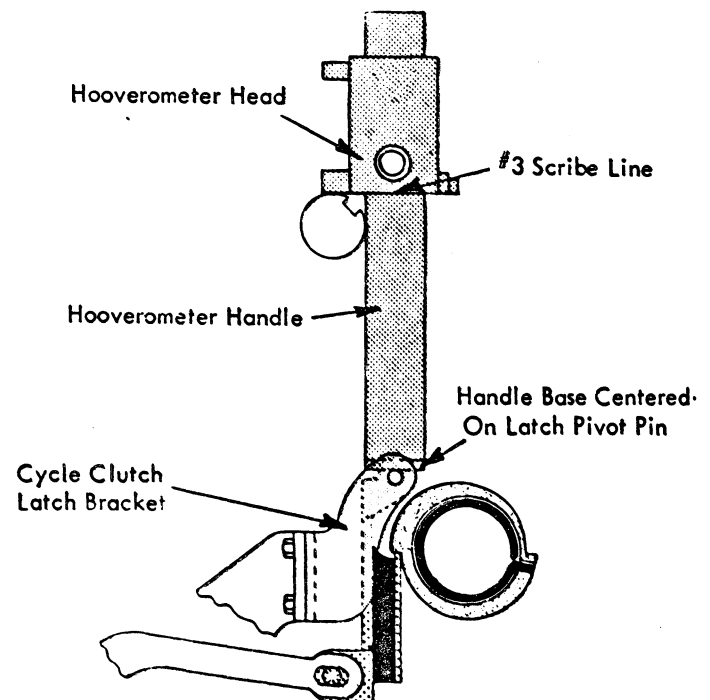

FIGURE 88. Cycle Clutch Latch Bracket Adjustment
- Cycle Clutch Latch Bracket - Adjust the bracket vertically so that the steps of the cycle clutch sleeve are horizontal when the sleeve is stopped by the latch (Fig. 88).